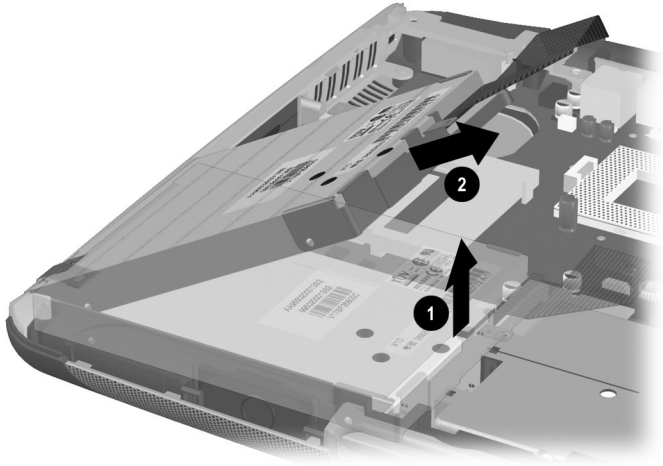

Figure 5-37. Removing the Diskette Drive
4. Lift up the right side of the diskette drive ❶ until the drive rests an angle (Figure 5-37).
5. Slide the diskette drive to the right ❷ and remove it from the base enclosure.